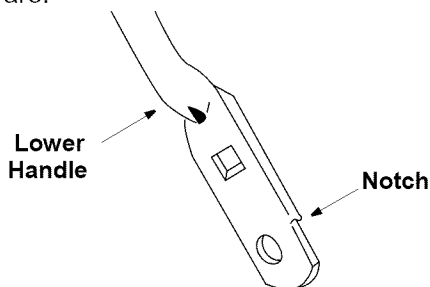

Figure 13
- Turn the lower handle around so the notches on the bottom of the lower handle are facing forward as shown in Figure 13.